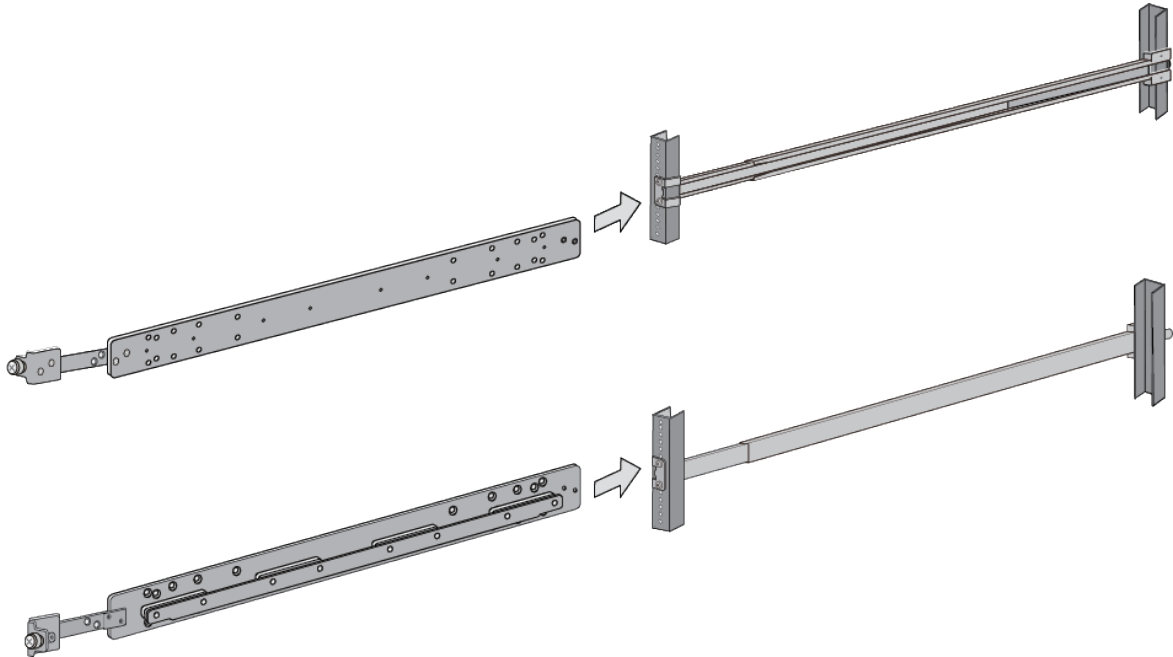

Figure 113. Testing the Inner Rails with the Extension Brackets
4. To test the lengths of the extension brackets, slide the inner rails into the outer rails in the equipment rack. Refer to Figure 113.